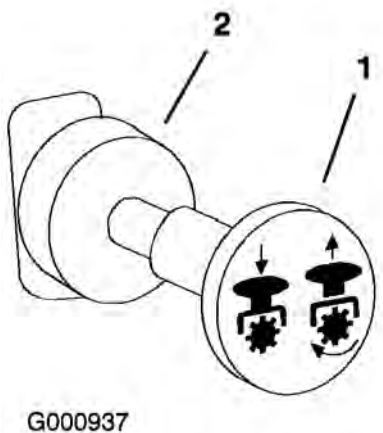

Figure 14
4. Pull out on the power take off (PTO) switch to engage it (Figure 14).
To disengage, push the PTO switch to the Off position (Figure 14).